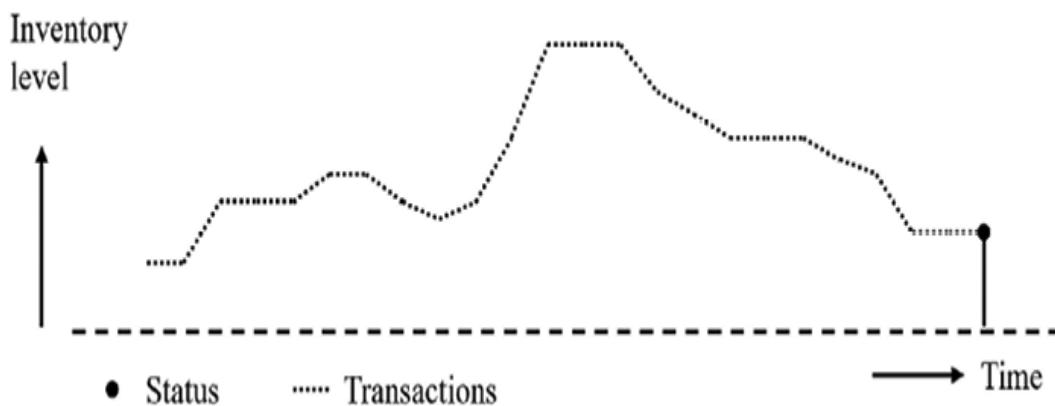

Figure 2.7.4: Storing the latest status, and transactions leading up to it
- The third option, and this is the one we will use, is to store reference levels for all products at *the most recent* point in time; see *Figure 2.7.4*. From a DAX perspective, this is an attractive way to model the data, as it is easy to calculate inventory levels at any point in time. We discuss this after the figure: